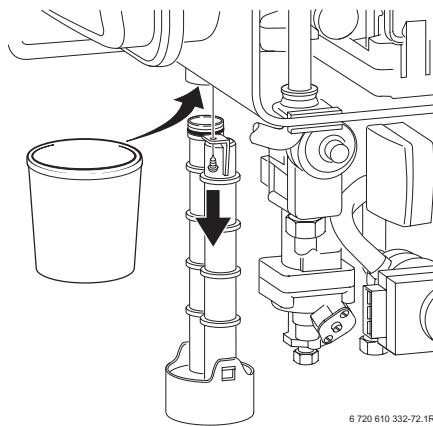

Fig. 48
- ▶ Unscrew condensation trap and place suitable container underneath. Refer to fig. 48.
In order to prevent spillage of condensate, the condensation trap should be completely removed, (see page 34, fig. 48).